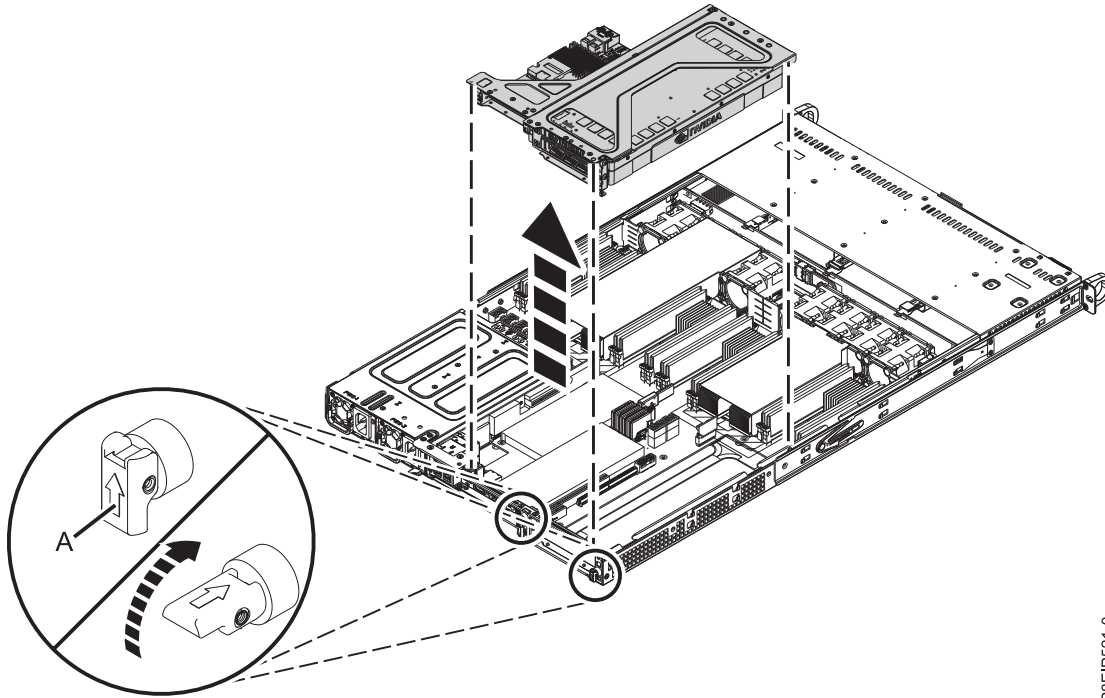

Figure 46. Removing the PCIe riser
- b. Remove the PCIe riser as shown in Figure 46 on page 78.
- 1) Retract the retaining pins (A) so that the arrows on the tabs point to the system.